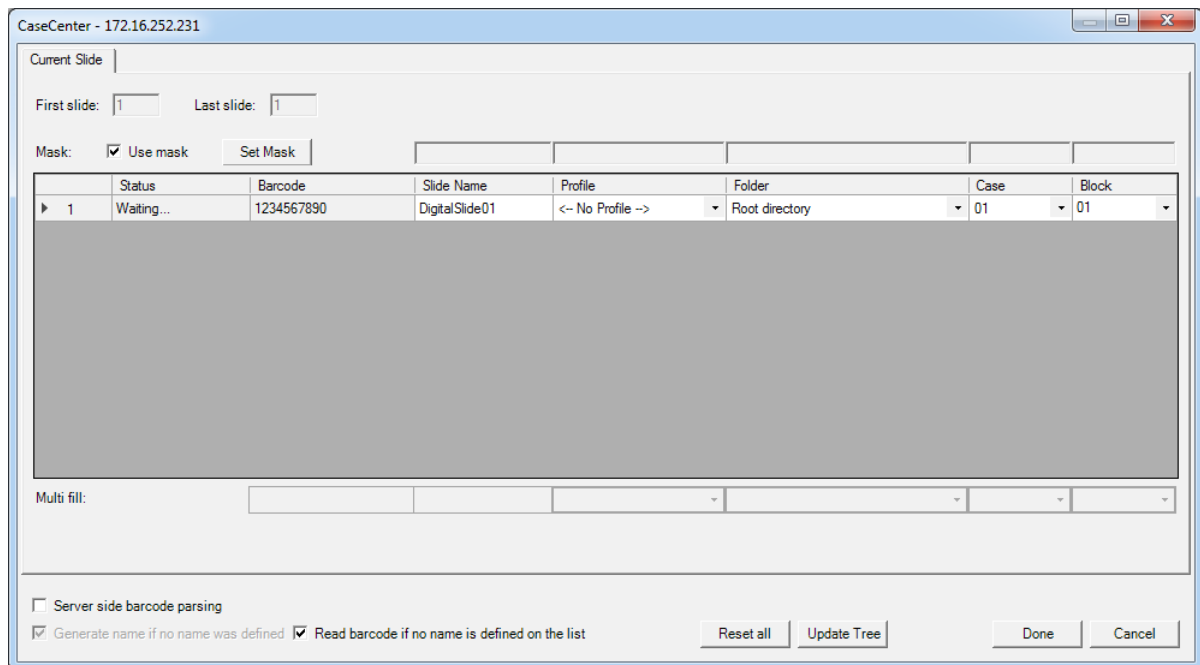

Figure 69 – CaseCenter window in Manual Mode
- Slide data is displayed in a form for the slides loaded in the tray. If in Manual Mode, only the data of the actually loaded slide can be set (see **Figure 69**), and when in Automatic Mode, the form contains 12 rows for all the slots on the tray (**Figure 70**).